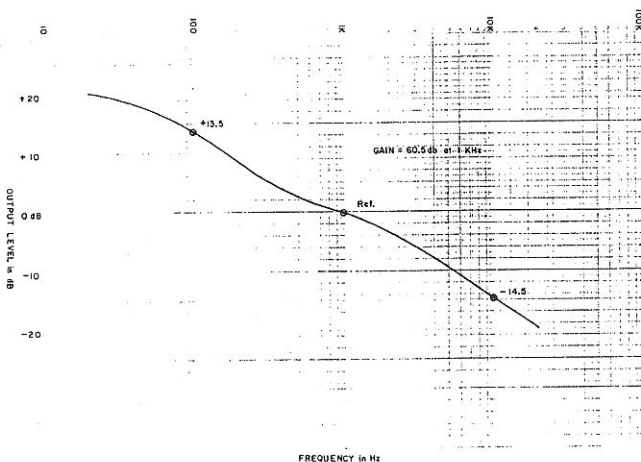

Figure 6-6. Phono 2 Response
- C) Referring to Figure 6-6 below, verify that the output signal levels are within  $\pm 0.5$ dB of the values indicated at each of the test points (circled). Adjust input frequency and repeat until all 3 test points have been verified. Table 6-6 lists the acceptable ranges.